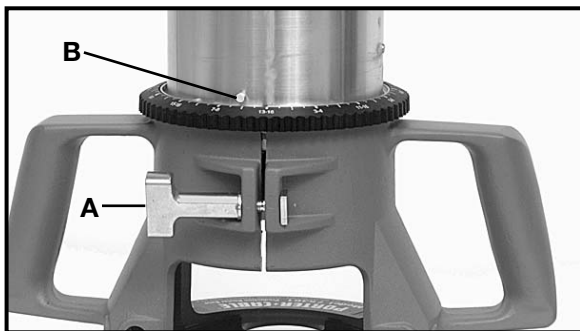

Fig. 1
- (a) Loosen clamp screw (A) Fig. 1.
- (b) While holding base, turn motor unit COUNTERCLOCKWISE until lower pin (B) in motor housing is disengaged from groove in base.
2. Loosen the clamp screw (A) Fig. 1 to allow the power unit to be set in the base unit.
3. Insert motor unit into base aligning lower pin (B) with groove in base.